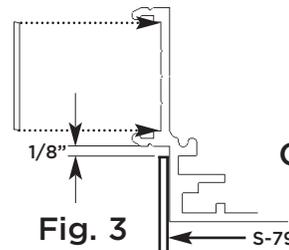

Fig. 3
5. Slide one jamb over to head and use a square for a 90° at corner. Install clip as needed. (see Fig. 1) Clip must set flat in groove. (Fig. 3)
Note: Installing Mullion (Horizontal or Vertical) Mullion clips (S-79) are supplied. Hold end of clip 1/8" back from edge of trim retainer so trim can be installed continuously without notching. (Fig. 3)